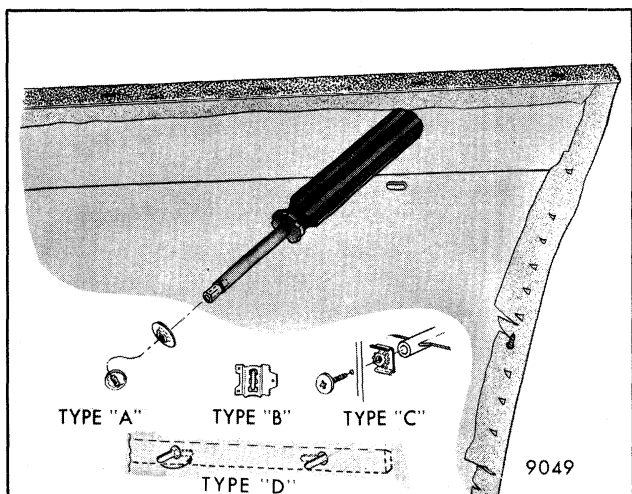

Fig. 5-14-Door Trim Pad Molding and Applique Removal
Door trim moldings and appliques are secured from the outboard side of the door trim panel with several types of metal fasteners (Fig. 5-14) or bend-over tabs.
2. For removal of type "A" fasteners (Fig. 5-14), use tool J-23554 or equivalent.
3. To remove type "B" fasteners (Fig. 5-14), carefully pry-up on fastener until there is sufficient working space to insert wire cutter; then cut fastener and discard.
4. For removal of type "C" fasteners (Fig. 5-14), use a cross head type screwdriver.